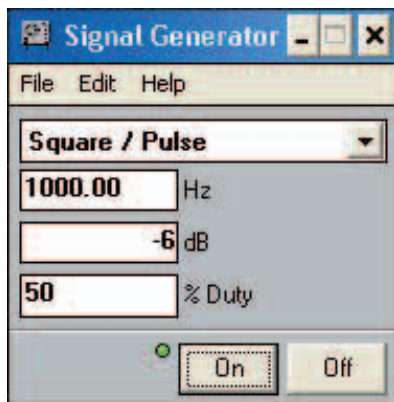

Fig.7.21. Setting the signal generator tool to produce a 1kHz square output
5. Click on the signal generator icon to start the signal generator tool and set the output to square/pulse, 1000Hz, -6dB, and 50% duty cycle as shown in Fig.7.21. Finally, click on the "On" button to generate the waveform with the parameters that you have just entered.